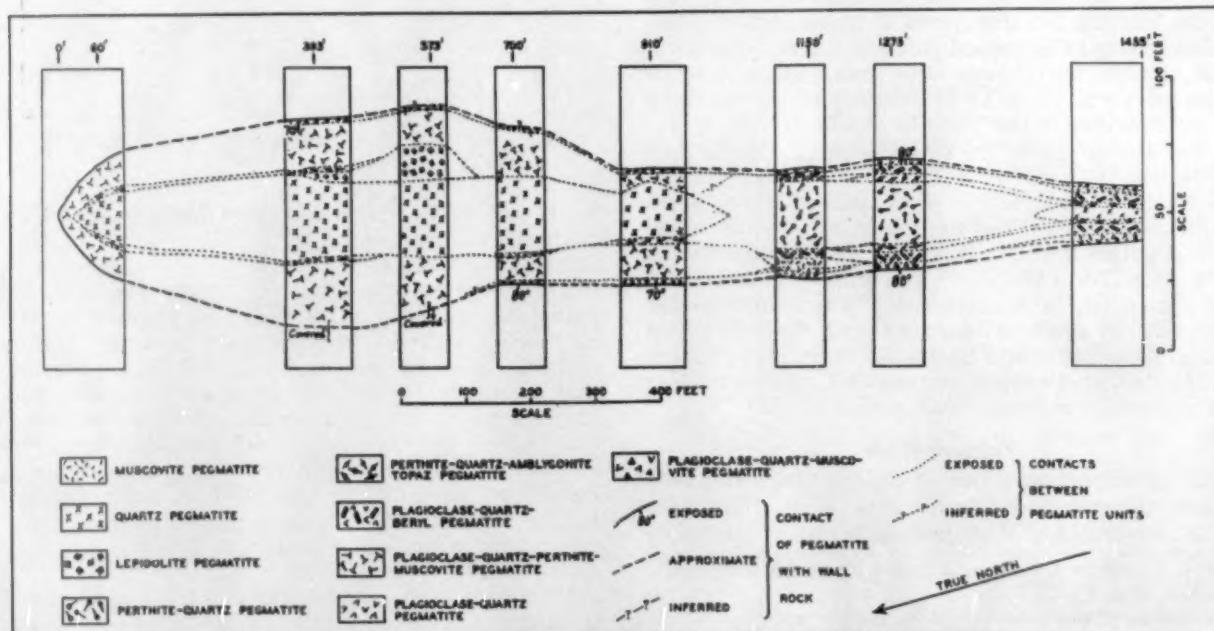

Fig. 3—Sectional plan of Van der Made pegmatite, Erongo Schlucht.
Another proof of nonspherical explosive force propagation was made using an electronic oscilloscope furnished by Philips of Hamburg, Germany. Several detectors were placed along the line of least resistance and others in the side arm of the coyote tunnel, which usually is at right angles to the line of least resistance. The detectors were placed and stemmed in the short holes. The distance between detectors and explosive charge in each direction was the same. Fig. 2 shows the general arrangement. Fig. 3 shows the typical wave characteristic obtained from these experiments. It is assumed that the first wave concentration is due to the detonation wave action and the second due to the expansion pressure of explosive gases. The detonation shock affects the amount of fragmentation, but it is the expansion force of explosive gases that breaks and displaces the rock. In both locations the wave con-
**Pegmatites on the Van der Made Claims:** A series of pegmatites mined by G. H. Van der Made is exposed on the ridge on the west side of the Erono Schlucht. Brief descriptions of several of these pegmatites are given by P. J. Rossouw (Ref. 17, pp. 89-90, 107-11, 113-114). The most interesting pegmatite is one that outcrops about halfway up the slope of the ridge. It strikes N 15° E to N 20° E, dips 70° to 80° W, and crops out almost continuously for about 1450 ft. The south end of the body is concealed by overburden. The arrangement of the major lithologic units of this pegmatite is indicated by the sectional plan of Fig. 3, which is based on a
The pegmatite shown in Fig. 3 appears to be the same as one described by P. J. Rossouw (Ref. 17, pp. 107-109, 113, 114). Zonal units in the pegmatite are discussed and illustrated in this report, although the overall relationships of the zones are not given. The lithia mica is reported by F. C. Partridge (Ref. 17, p. 113) to be zinnwaldite.
Tantalite was not seen in place by the writer, but according to Rossouw it occurred along the contact between two thin zones included in Fig. 3 in the outer intermediate zone (plagioclase-quartz pegmatite).
where  $F$  and  $(100 - F)$  are the core and adjusted sludge assay factors from Fig. 3.
not only the factor  $F$  from Fig. 3 but also the quantity  $\frac{\text{Vol } B}{\text{Vol } A}$